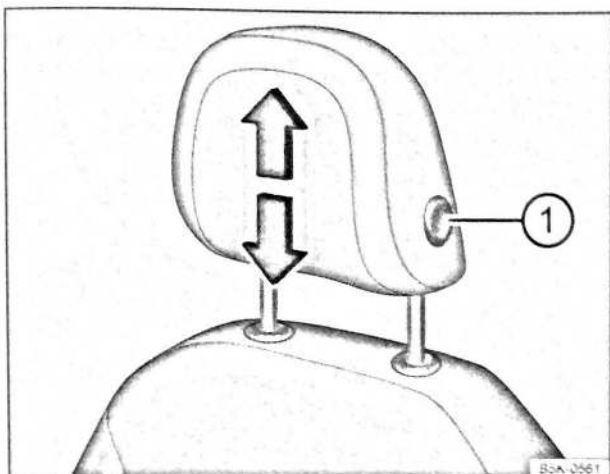

Fig. 46 Adjusting front head restraint
- Push the head restraint up or down in the direction of the arrow while pressing and holding button  ⇒ Fig. 46  ⇒ .